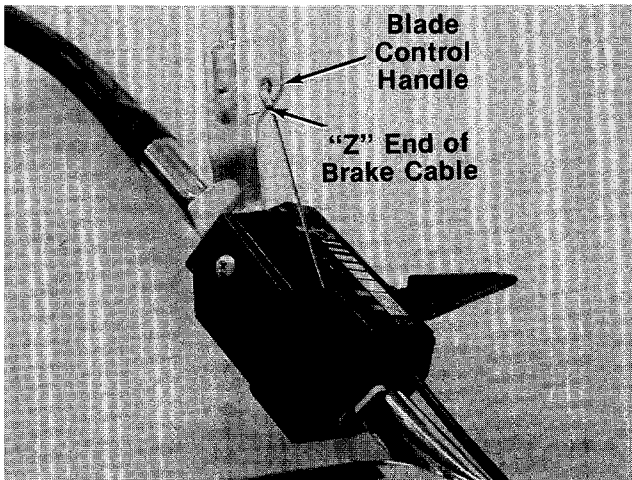

FIGURE 5.
- ← 8. Hook the "Z" end of the brake cable into blade control handle. See figure 5.